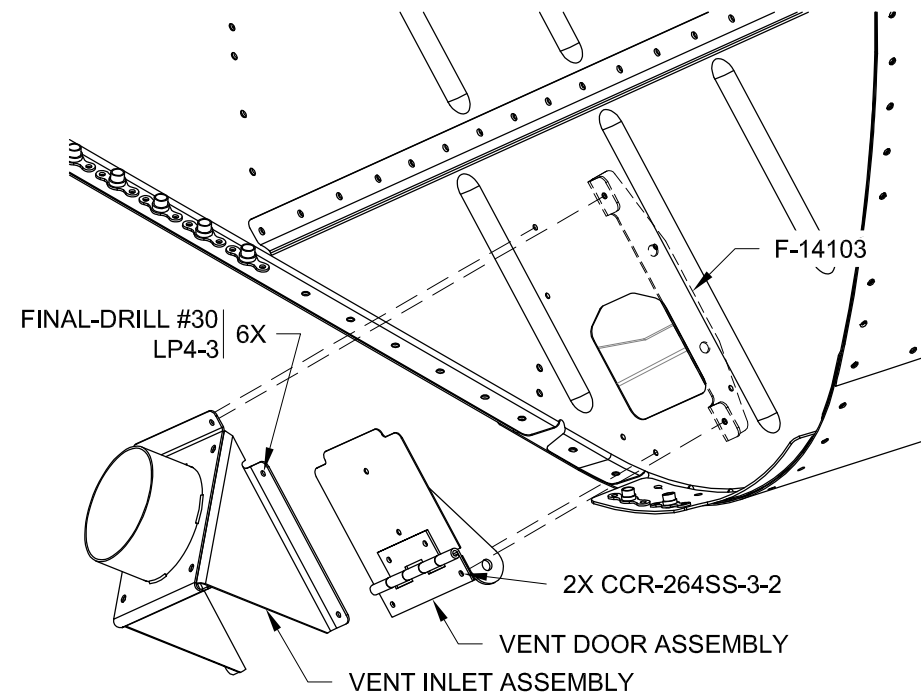

FIGURE 1: INSTALLING THE VENT DOOR & INLET ASSEMBLIES
Step 1: Rivet the Vent Door Assemblies to the lower firewall and F-14103 as shown in Figures 1 and 2. Note the orientation of the F-14103 in Figure 2.
Step 4: Rivet the Vent Inlet Assemblies to the firewall and F-14103 as shown in Figure 1. Install the Vent Inlet Assembly with the FF-00084 on the right side.